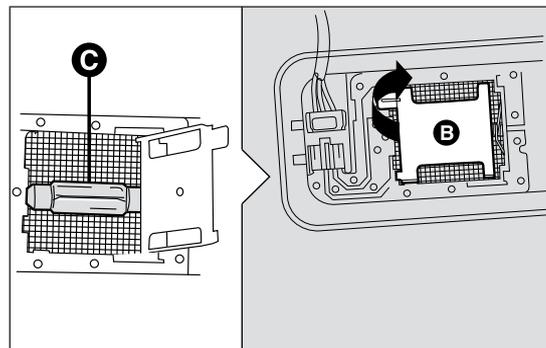

fig. 123
- open the cover fig. 123 as indicated;
- replace the bulb C fig. 123 releasing the side contacts, insert the new bulb and make sure that it is correctly locked between the contacts;